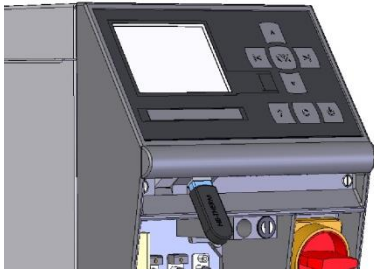

Fig. 74: Connect USB data carrier
2. Connect USB data carrier (Fig. 74).